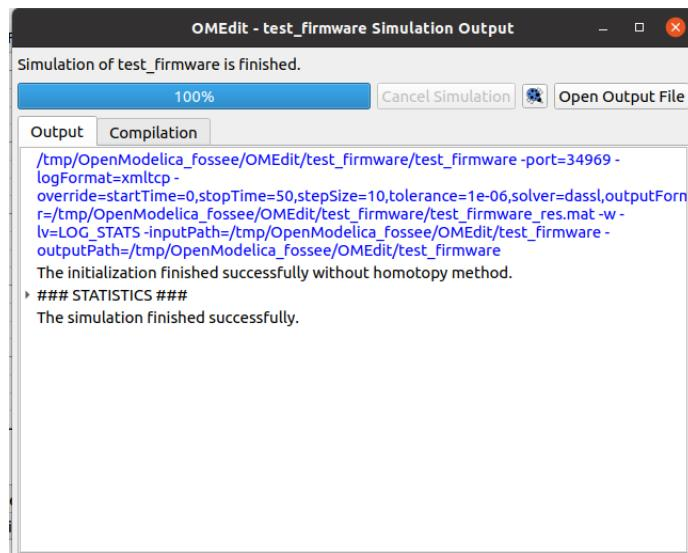

Figure 3.34: Output window of OMEdit
for simulating the models, it will open an output window the moment you click on Simulate. Fig. 3.34 shows the output window after the simulation of our model is finished. Also, we can observe that the OMEdit is now in Plotting Perspective.
As shown in Fig. 3.34, OMEdit displays the message that "The Simulation finished successfully". Had there been any error in simulating the model, we would not have received this message.
**OpenModelica Code 3.1** An OpenModelica code/model to check whether the firmware is properly installed or not. Available at **Origin/user-code/led/0penModelica/test\_firmware.mo**, see Footnote 2 on page 2. Simulate this code/model by following the steps given in section 3.6.2. If the simulation is successful, you should expect an output window in OMEdit as shown in Fig. 3.34.